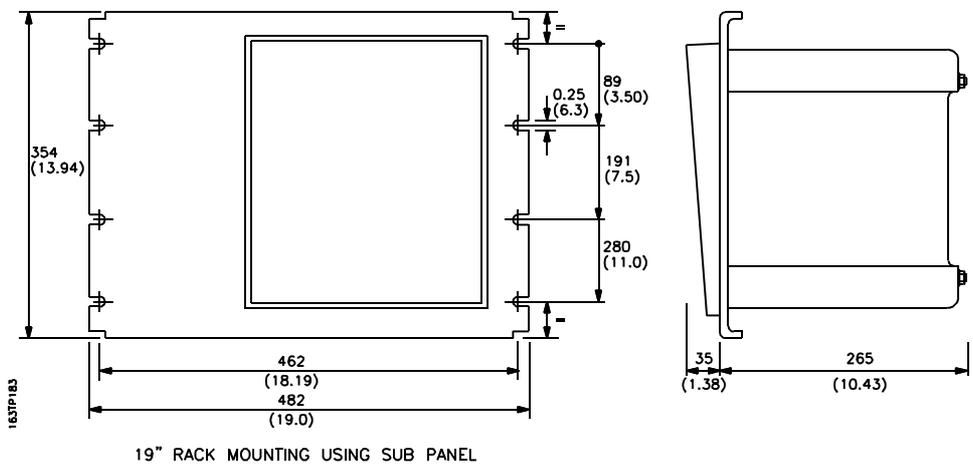

Figure 2.4 19" Rack Mounting (Control Unit Only)
3. 19 inch rack mounting using panel kit 01100 414 (Figure 2.4).